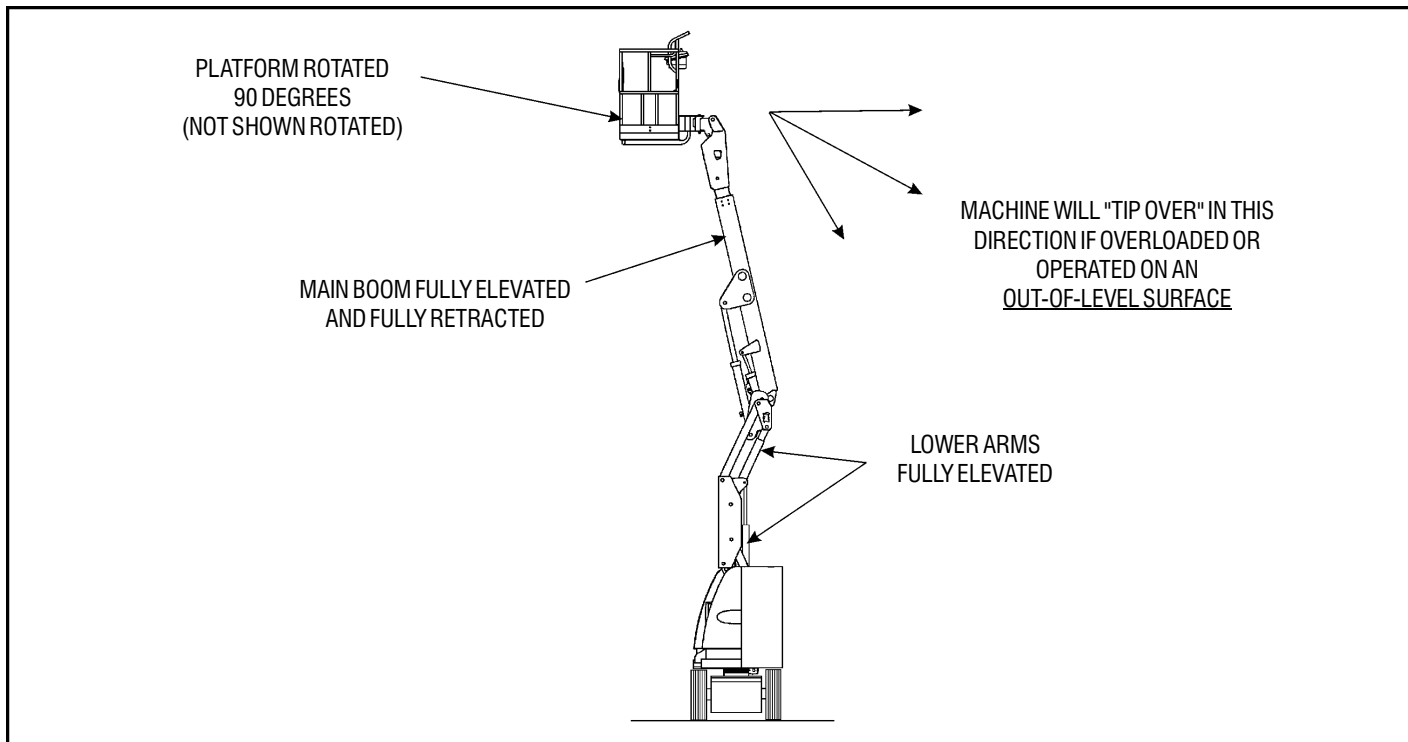

Figure 4-2. Position Of Least Backward Stability
Machine stability is based on two (2) conditions which are called FORWARD stability and BACKWARD stability. The machine's position of least FORWARD stability is shown in Figure 4-1. and its position of least BACKWARD stability is shown in Figure 4-2.